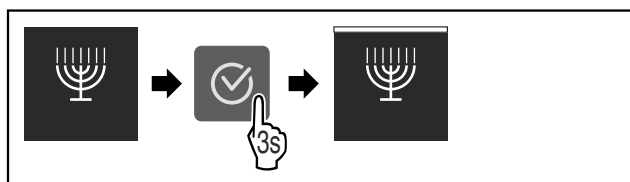

Fig. 13
- ▶ Complete the steps (see Fig. 13).